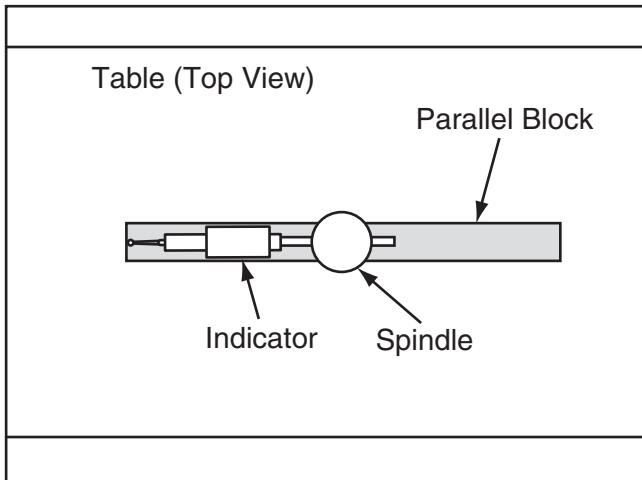

Figure 71. Parallel block and indicator positioned for the X-axis measurement (top view).
- To measure spindle alignment along the X-axis, place the parallel block directly under the spindle and indicator across the length of the table, as illustrated in **Figure 71**.